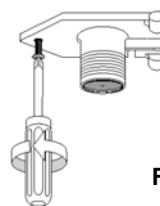

Fig.5
2. Remove the retaining screw of the quick cable connector door located at the base of the appliance (fig.5)